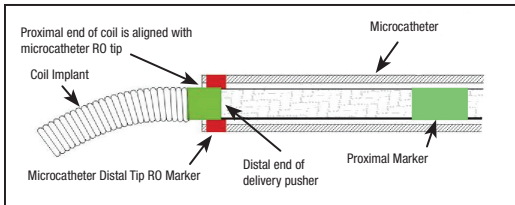

Figure 4 - Position of Marker Bands for Detachment
28. Advance the coil into the desired site until the radiopaque marker on the proximal end of coil is aligned or slightly distal of microcatheter distal tip RO marker, positioning the detachment zone just outside the microcatheter tip. See Figure 4.